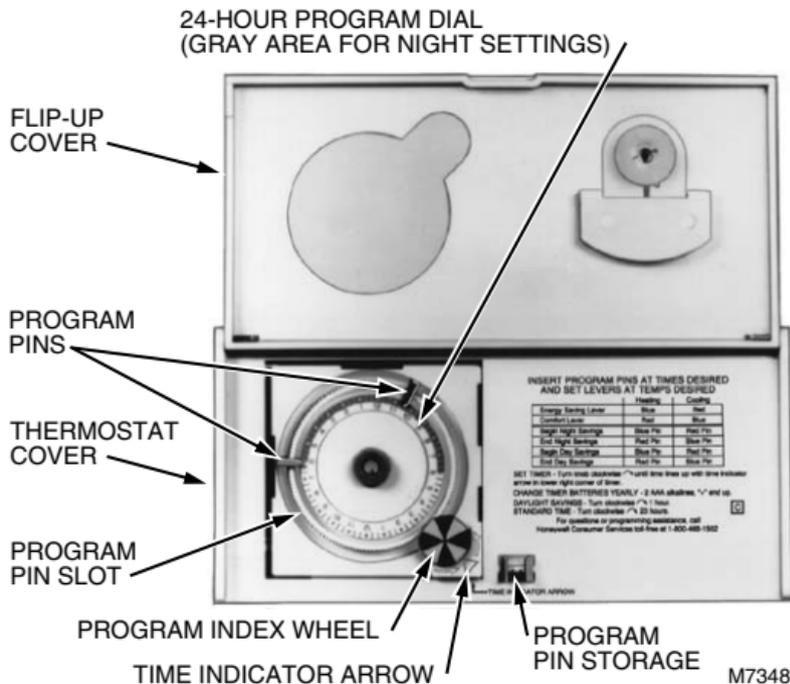

Fig.4—Program components.
Notice the slots on the program dial (Fig. 4). The dial is slotted for the program pins that can be inserted at 10-minute intervals.
- Lift thermostat flip-up cover and you will find the 24-hour program dial. The slots on the program dial (Fig. 4) are for the program pins that can be inserted at 10-minute intervals.